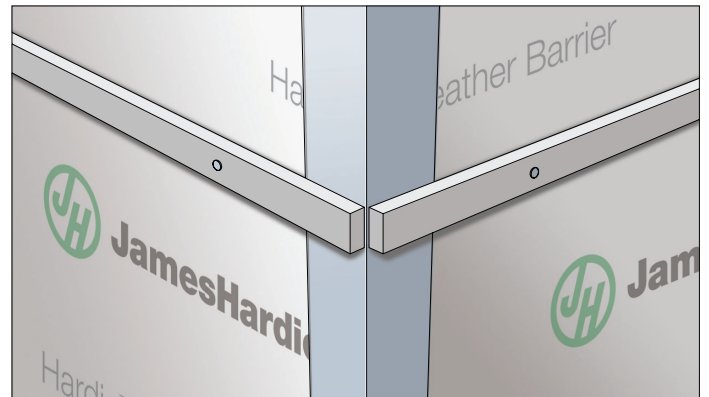

Figure 7b. Starter strip
- For Hardie® Artisan lap only install a 1 1/4 in. starter strip such that the ends stop at the corner of the wall. Do not overlap the ends (Fig. 7b)